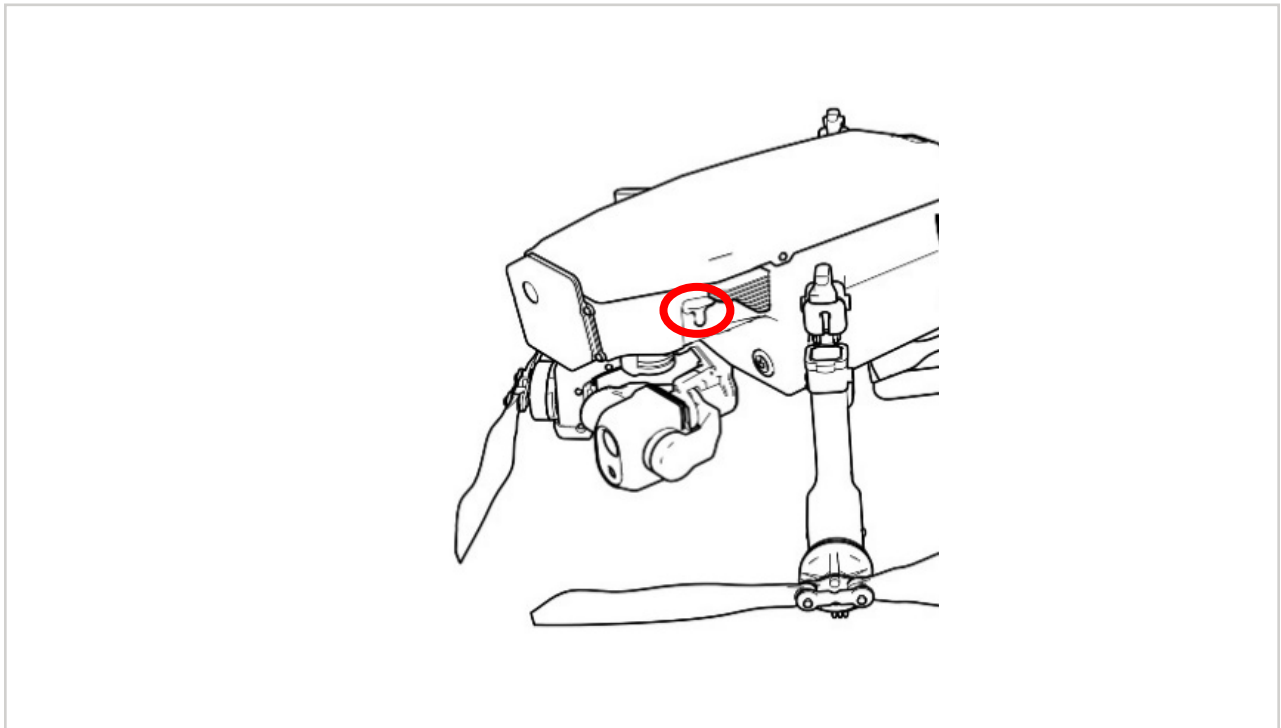

FIGURE 11.A MICROSD CARD SLOT ON AIRCRAFT
2. Uncover the microSD card slot. The cover is a rubber, T-shaped piece attached at the bottom. Lift the top part off and slide it away to expose the micro SD card slot, as shown in Figure 11.A.